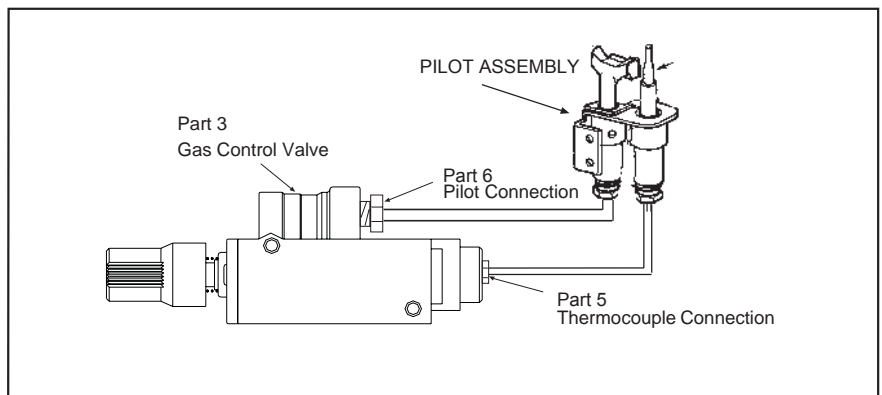

Figure 2 Pilot Burner Connections
- C. Attach the 3/8" straight Flared Fitting (Part #4) to the Gas Control Valve Inlet using pipe compound. (See *Figure 2*)
- D. Attach Pilot Gas Supply Line (Part #6) and the Thermocouple Lead (Part #5) to the Gas Control Valve (See *Figure 2*)